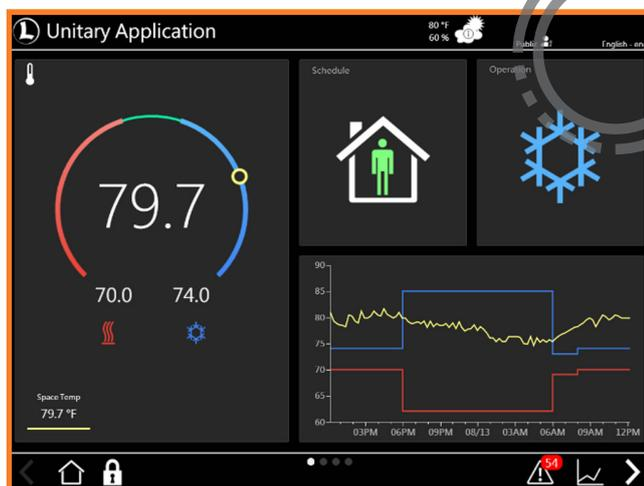

Figure 9: Multiple languages supported
- Multiple languages supported (Fig. 9)